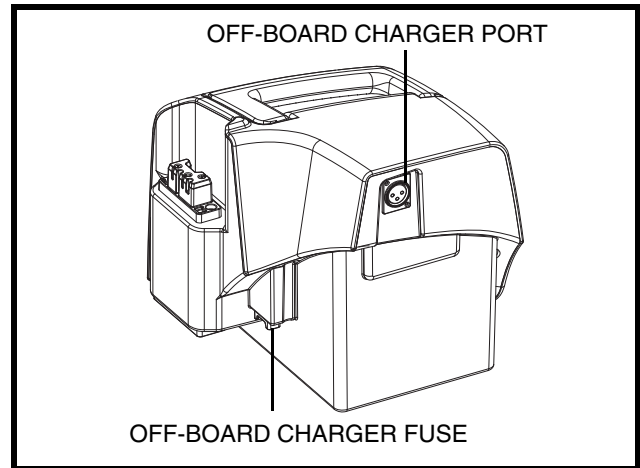
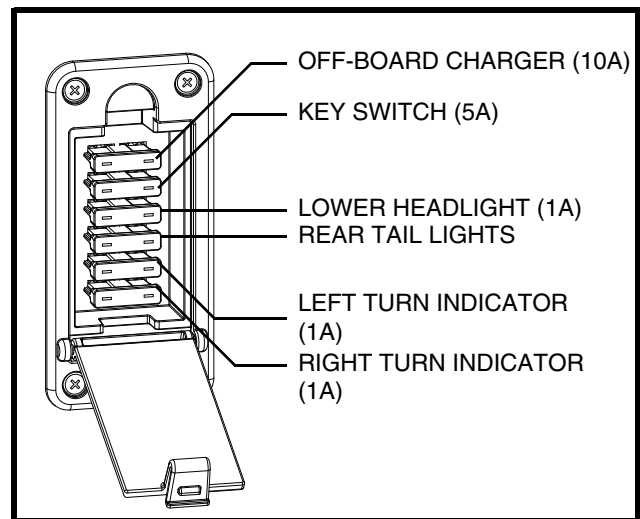

Figure 5A. Off-board Charger Port (Battery Box Mounted)
Figure 6. Tiller Console Fuses
Your scooter is equipped with a series of electrical system fuses, which help protect the off-board charging system, key switch and lighting system from receiving an overload of electrical current. These fuses are the same type used in automobiles and are located in a compartment on the tiller. See **figure 6**. If your scooter is equipped with battery boxes, a separate 10-amp fuse is located on the right battery box. See **figure 5A**. This fuse protects the off-board charging system when the batteries are charged off of the scooter. See IX. “Care and Maintenance” for fuse replacement.
5. Plug the 3-pin charger power lead into the off-board charger port on the right battery box. **See figures 5A and 10A.**